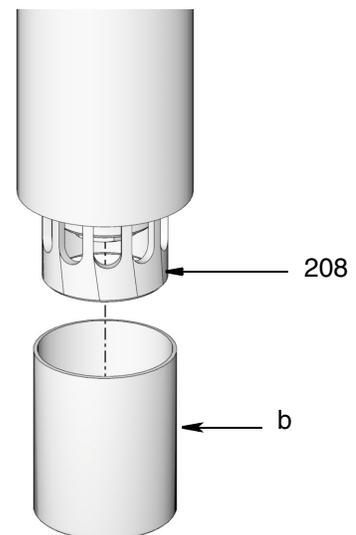

FIG. 5
4. **HP and HF Models Only:** Remove and discard protective cap (b) from end of pump down tube (208) (FIG. 5).